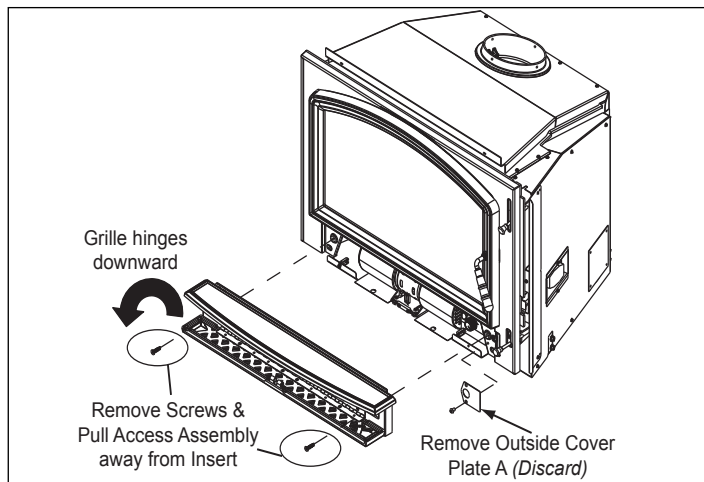

Figure 17.1
1. Swing grille down to expose the two screws. **Figure 17.1.**